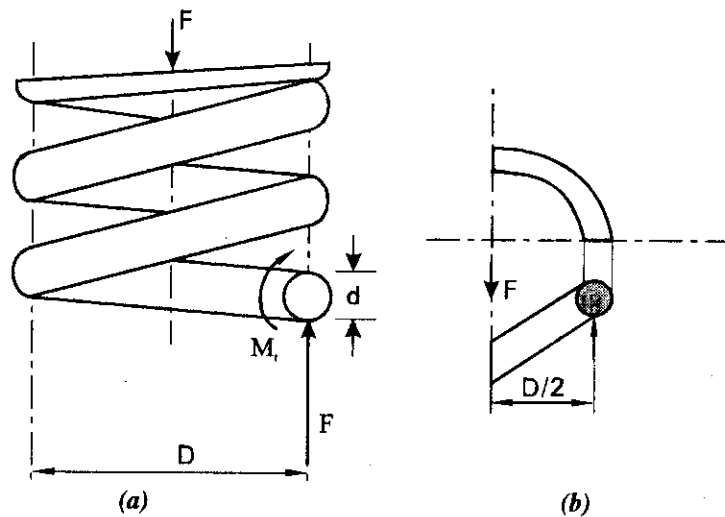

Fig. 3.1
Consider a helical compression spring made of circular wire and subjected to an axial load 'F' as shown in Fig. 3.1 a
This torsional shear stress diagram is shown in Fig. 3.1 (c).
The direct shear stress diagram is shown in Fig. 3.1 (d)
The resultant diagram of torsional shear stress and direct shear stress is shown in Fig. 3.1 (e).
In order to consider the effect of both direct shear as well as curvature of the wire, Wahl's stress factor 'k' introduced by 'A.M. Wahl' may be used. The resultant diagram of torsional shear, direct shear and curvature shear stress is shown in Fig. 3.1 (f)
**Fig. 3.1 c : Torsional shear Stress diagram**
**Fig. 3.1 d : Direct shear Stress diagram**
**Fig. 3.1 e : Resultant torsional and direct shear stress diagram**
**Fig. 3.1 f : Resultant torsional direct and curvature shear stress diagram**